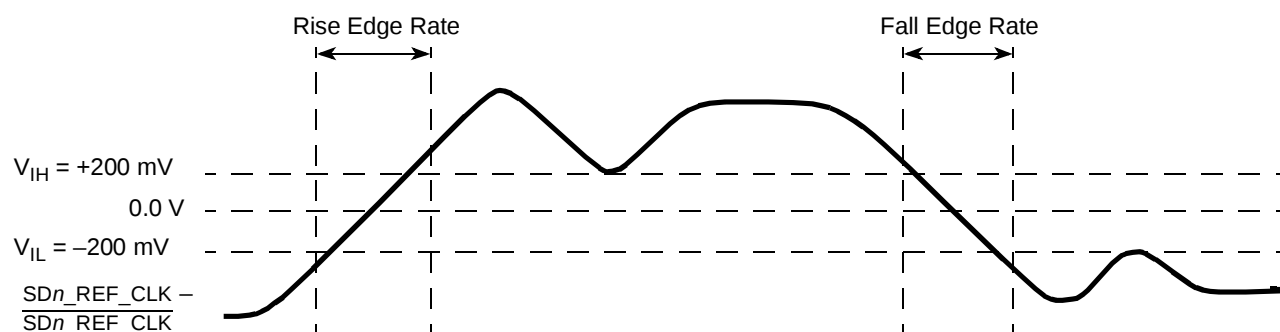

Figure 50. Differential Measurement Points for Rise and Fall Time
3. Measured from -200 mV to +200 mV on the differential waveform (derived from SD_n_REF_CLK minus SD_n_REF_CLK). The signal must be monotonic through the measurement region for rise and fall time. The 400 mV measurement window is centered on the differential zero crossing. See Figure 50.